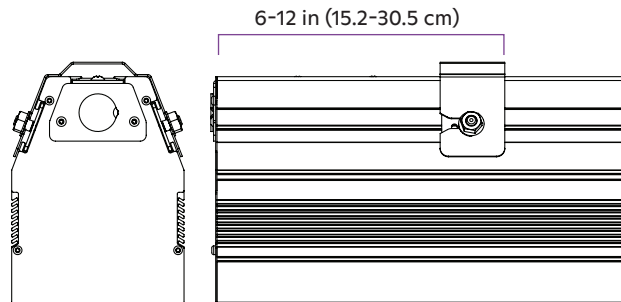

fig. 9
- Spacing: Length of fixture minus 6 to 12 inches on both ends. (Subtract the same number of inches from both ends.) For spacing, see fig. 9.